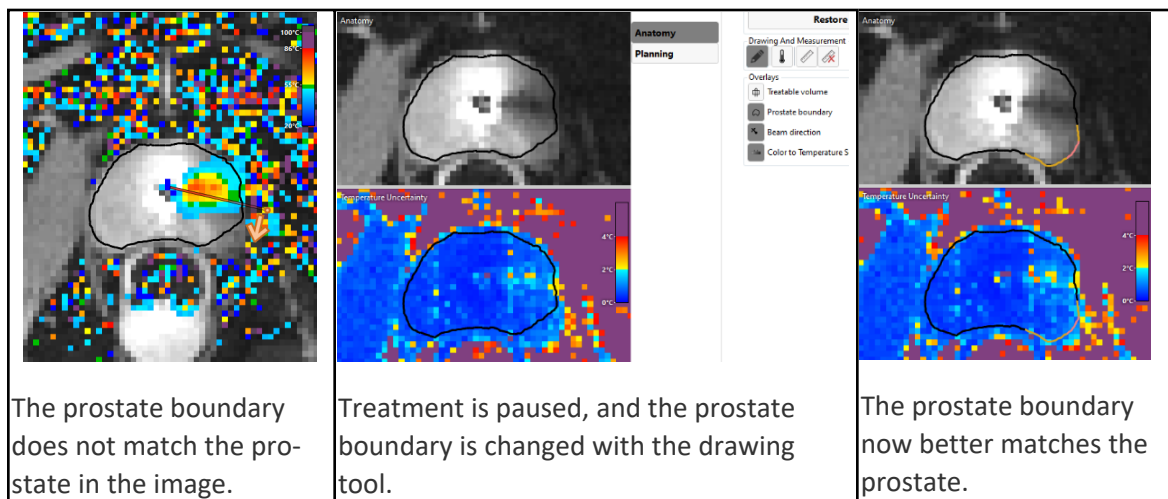

Figure 49: Editing the prostate boundary
3. Click the drawing tool. The TDC displays a new pane showing the prostate boundary contour and the temperature uncertainty for the selected slice (Figure 49).